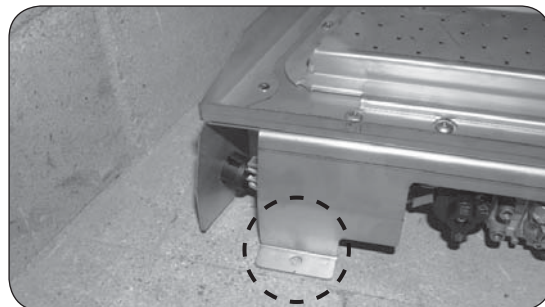

Fig. 14-3 Anchoring tab close up
6. Using the appropriate hardware for your fireplace construction (not included); secure the burner system into the fireplace floor. The unit has two anchoring tabs, reference Fig. 14-3.